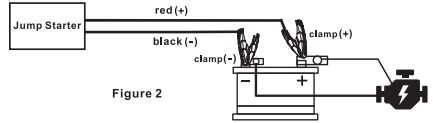

Figure 2
5. As soon as the engine starts, and keeping the ProBooster clamp and battery lead connected, attach the positive lead to the positive battery terminal and tighten the terminal clamp (fig. 2). After the positive lead has been secured to the battery terminal switch off the ProBooster and disconnect from the battery.